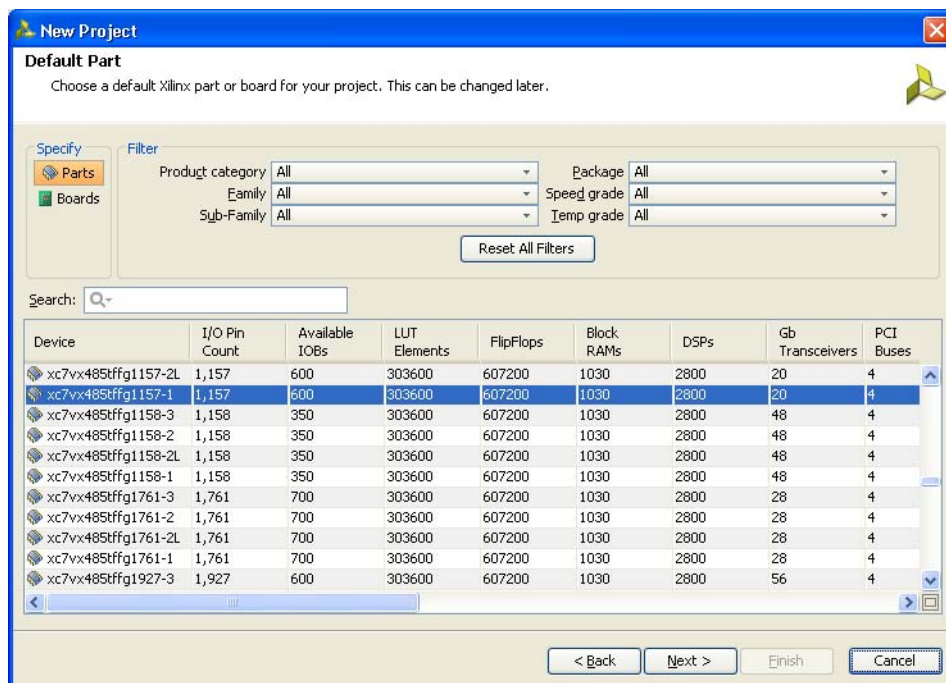

Figure 4-8: Default Part (Default Window)
- Click **Next** to proceed to the **Default Part** page (Figure 4-8) where the device that needs to be targeted can be selected. The **Default Part** page appears as shown in Figure 4-8.